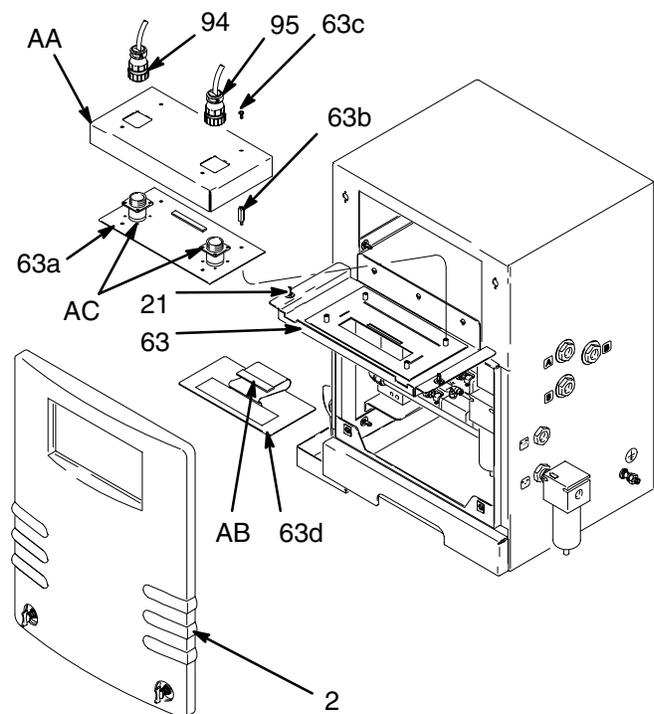
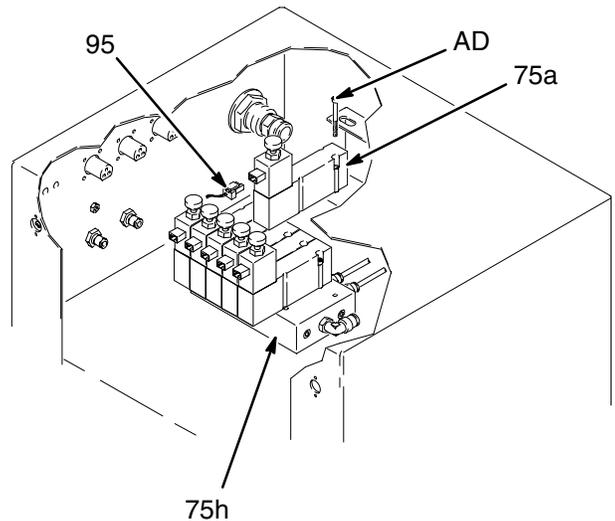
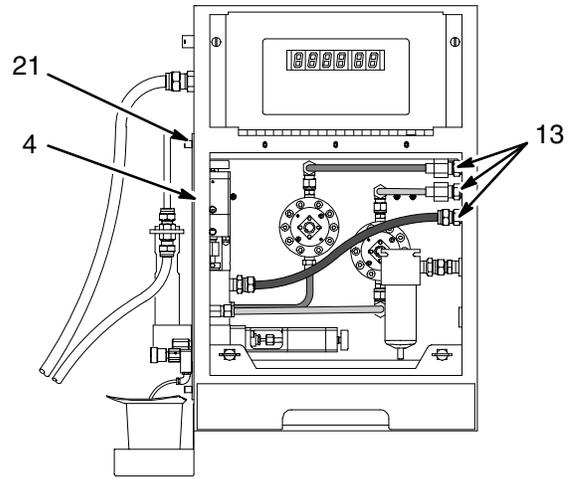
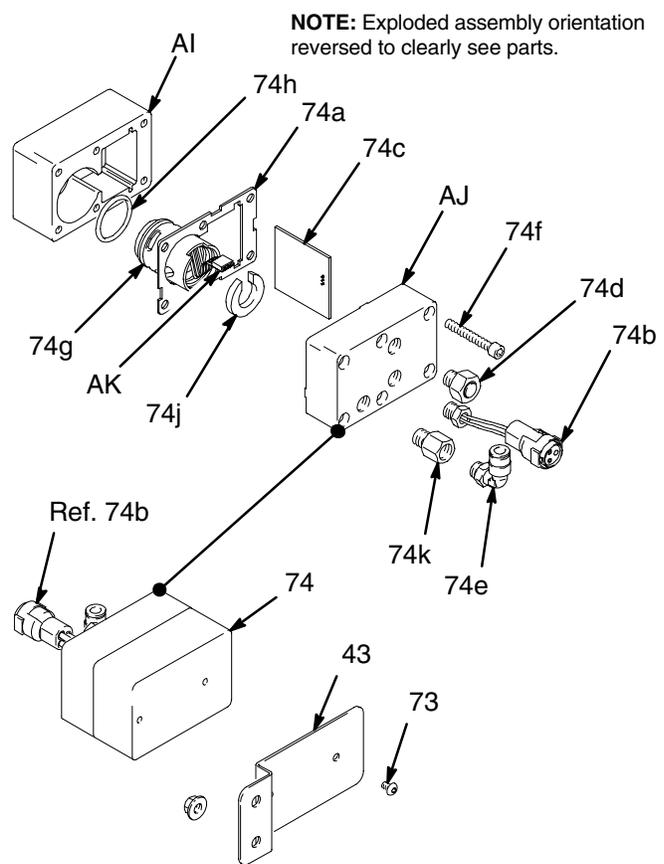

Fig. 12
Fig. 13
Fig. 14
Fig. 18
4. Remove the control front cover (2). See Fig. 12.
5. Loosen the two screws (21) from the control panel (63) to allow the panel to drop forward.
6. Disconnect the wire harnesses (94, 95) from the two circuit board connectors (AC).
7. Unscrew the four screws (63c) and remove the circuit board cover (AA).
8. Disconnect the ribbon cable (AB).
9. Pull the keypad (63d) off the front of the control panel (63), and slide the ribbon cable (AB) out of the panel slot. See Fig. 12.
11. Slide the ribbon cable (AB) through the panel slot, align the keypad (63d) with the recessed area on the panel, and press it into place.
12. Unscrew the four hex standoffs (63b), and remove the circuit board (63a). See Fig. 12.
14. Connect the ribbon cable (AB) to the circuit board (63a). See Fig. 12.
15. Place the cover (AA) over the circuit board (63a), and secure it with the screws (63c).
16. Connect the wire harnesses (94, 95) to the two circuit board connectors (AC).
17. Close the panel (63); be sure not to crimp or pinch the wires. Secure the panel with the screws (21).
18. Install the front cover (2).
4. Remove the front cover (2). See Fig. 12.
6. Disconnect the wire harness (95) from the solenoid electrical connector. See Fig. 13.
7. Unscrew the two allen screws (AD), and remove the solenoid (75a).
8. Make sure the gasket is in place on the new solenoid and secure it to the solenoid manifold (75h) with the screws (AD).
9. Connect the wire harness (95) to the solenoid electrical connector.
10. Close the panel (63); be sure not to crimp or pinch the wires. Secure the panel with the screws (21).
11. Install the front cover (2). See Fig. 12.
3. Remove the front cover (2). See Fig. 12.
4. Disconnect the three fluid lines from the check valves (13). See Fig. 14.
5. Loosen the four screws (21), and slide out the fluid panel (4). See Fig. 14 and 15.
7. Disconnect the wire harness (94) from the meter electronic sensor.
8. Remove the screws (68) from the back of the meter (20), and remove the meter.
10. Secure the meter (20) to the control cabinet with the screws (68).
11. Connect the wire harness (94) to the meter electronic sensor.
13. Push in the fluid panel (4) and secure it with the screws (21).
14. Connect the fluid lines to the check valves (13).
15. Install the front cover (2). See Fig. 12.